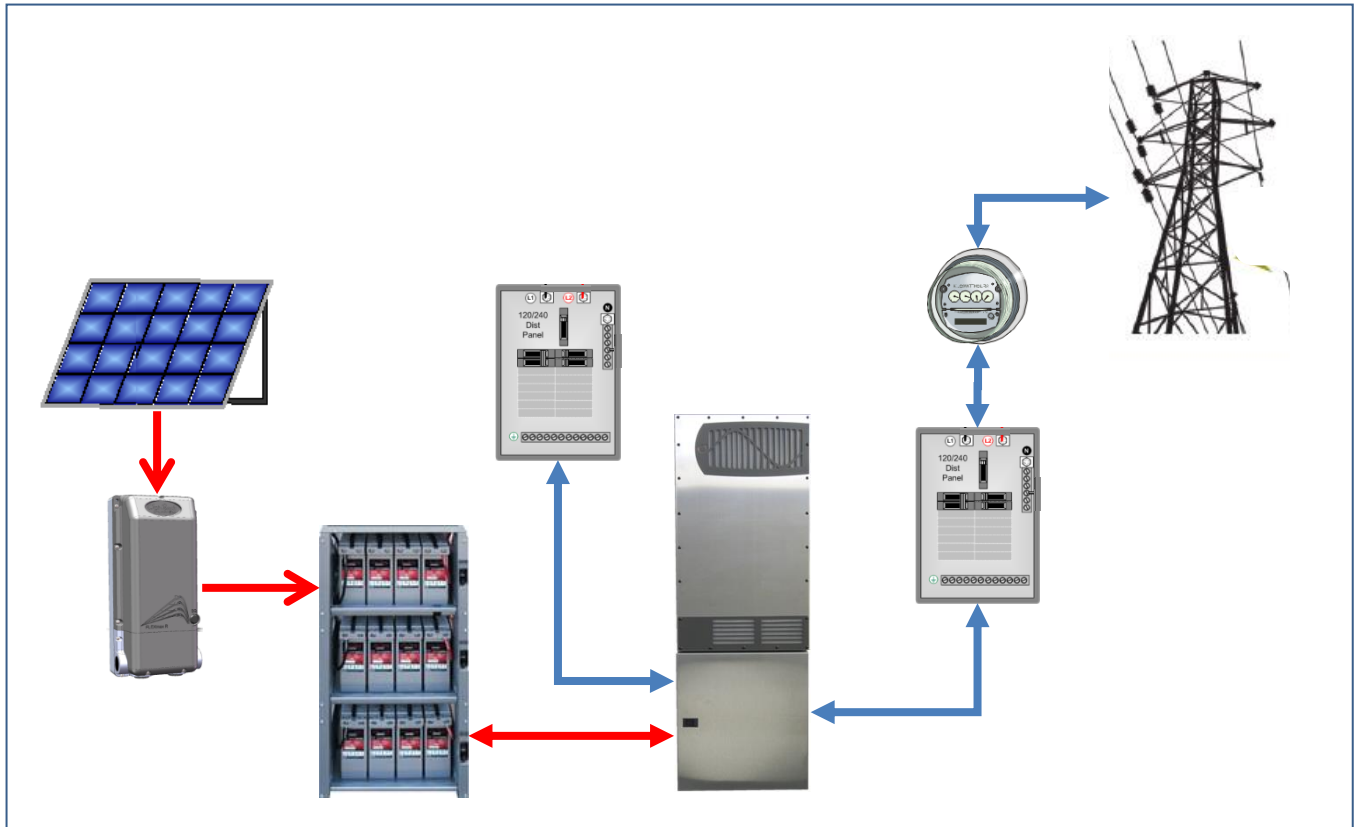

Figure 2 - Typical Grid/Hybrid System
A battery-based (BB) inverter system does not require the electrical grid to stay active, and is the mainstay of off-grid homes, businesses, and industrial installations such as cell phone broadcast towers. Using battery-based off-grid technology, a smarter type of “grid/hybrid” inverter technology is able to use PV, wind, hydro-electric and other renewable DC energy sources to keep the batteries charged and sell the excess to the grid, just like the grid-tied unit using the grid as its battery (see Figure 2).